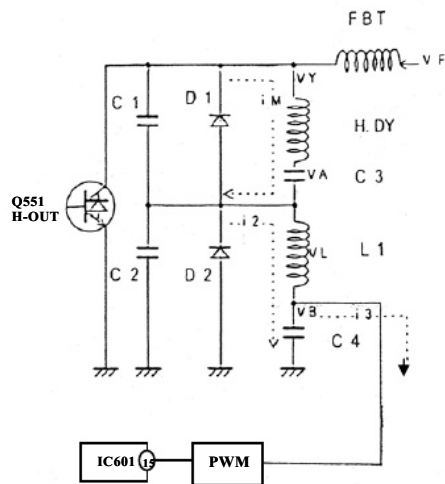

Fig 4.3
2. By adding the vertical parabolic voltage for correction to the PWM and it sends current i_3 during that first half of scanning [Fig 4.3]. Thus, C4 enclosure voltage decreases and VA supersedes VB. However, since the current $I'M$ flows, VA increases and VF is fixed.